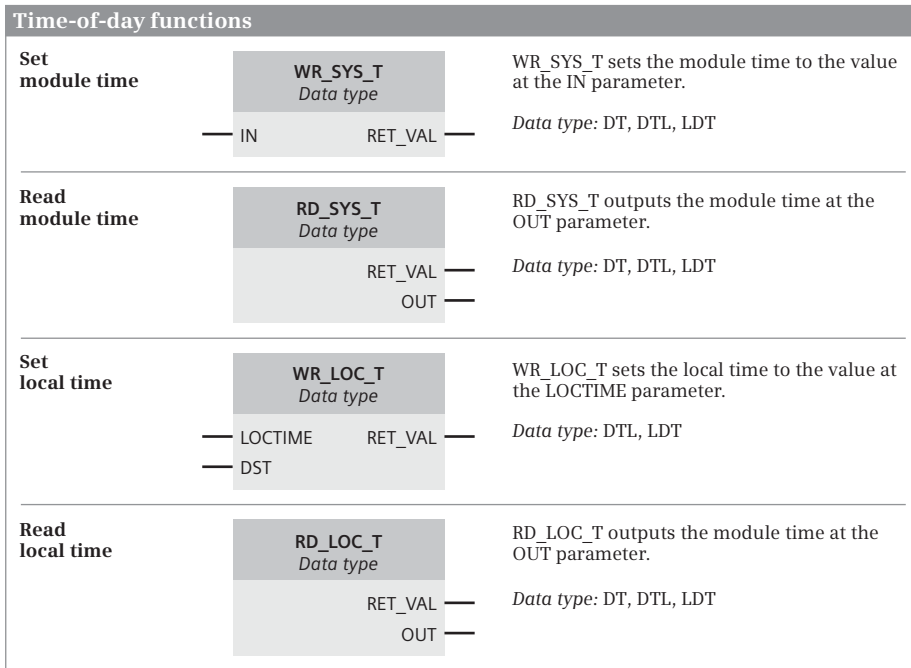

Fig. 5.19 System blocks for the time functions
WR_SYS_T (Write System Time) sets the CPU's clock to the value specified at the IN parameter (Fig. 5.19). The module time can be defined in the data format DATE_AND_TIME (DT) or DATE_AND_LTIME (DTL or LDT). This value does not include the local time and the daylight saving/standard time ID. The error information is output in the RET_VAL parameter (0 = no error). In the event of an error, ENO is set to signal state "0".
RD_SYS_T (Read System Time) reads the CPU's current module time and outputs it in the OUT parameter (Fig. 5.19). The module time can be output in the data format DATE_AND_TIME (DT) or DATE_AND_LTIME (DTL or LDT). This value does not
WR_SYS_T (Write Local Time) sets the CPU's clock (Fig. 5.19). You specify the local time at the LOCTIME parameter. WR_LOC_T then calculates the module time based on the setting to local time in the properties of the CPU and uses it to set the clock.
RD_LOC_T (Read Local Time) reads the CPU's current local time and outputs it at the OUT parameter with the DATE_AND_TIME (DT) or DATE_AND_LTIME (DTL or LTD) data type (Fig. 5.19). The local time is calculated based on the setting to the local time in the properties of the CPU.